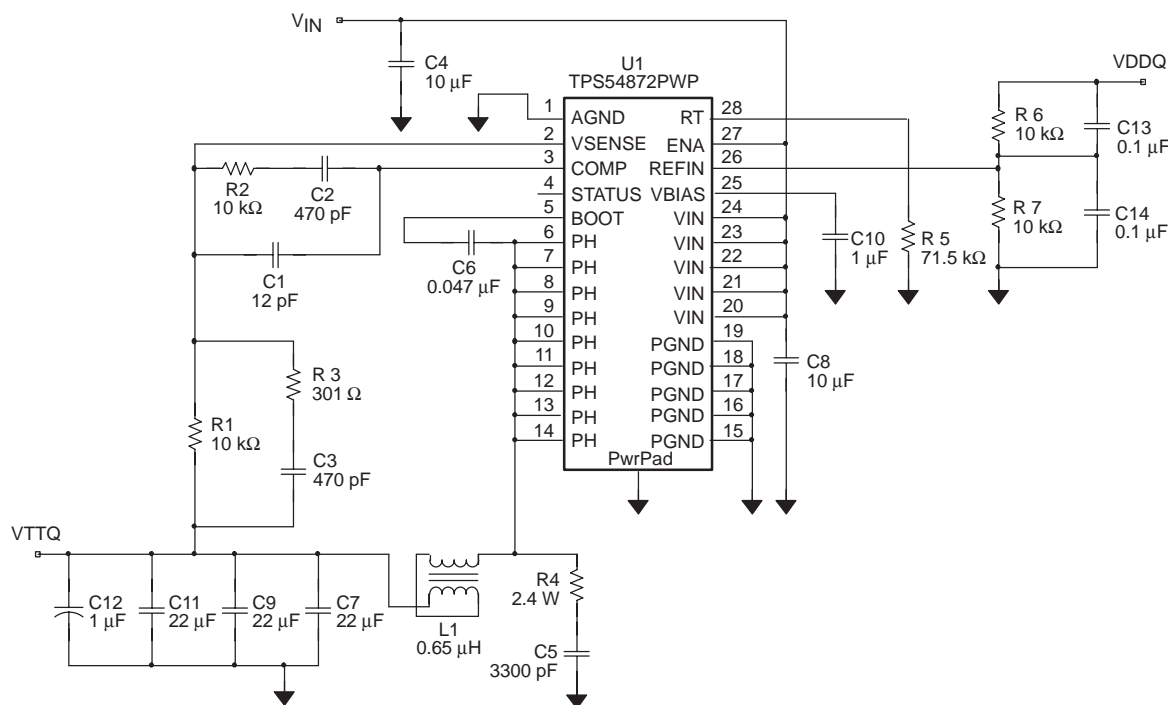

Figure 7. Application Circuit
(3) Specified by the circuit used in Figure 7
Figure 7 shows the schematic diagram for a typical TPS54872 application. The TPS54872 (U1) can provide up to 8 A of output current at a nominal output voltage of